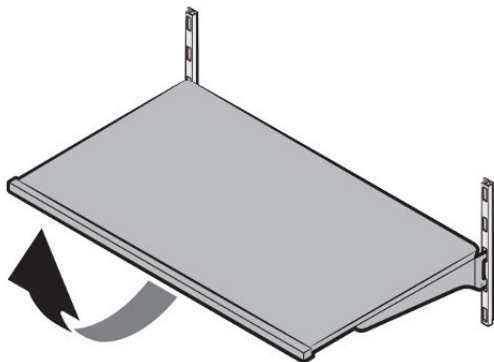

Figure 1
- Hold the front of the shelf, and then gently lift up and slide out (see Figure 1).